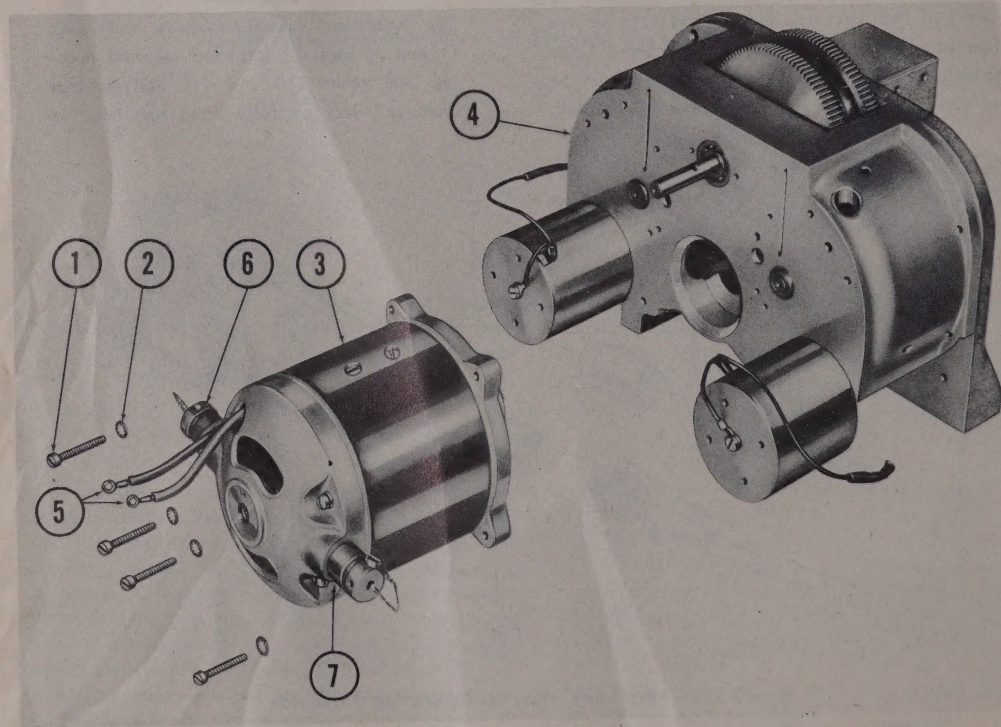

Figure 328 — Motor Assembly Removed
(7) REMOVE AND DISASSEMBLE MOTOR ASSEMBLY.
(a) (See figure 328.)—Remove the four fillister-head screws (1) and internal tooth lock washers (2) which secure the motor assembly (3) to the clutch and differential housing assembly (4). Remove the motor assembly.